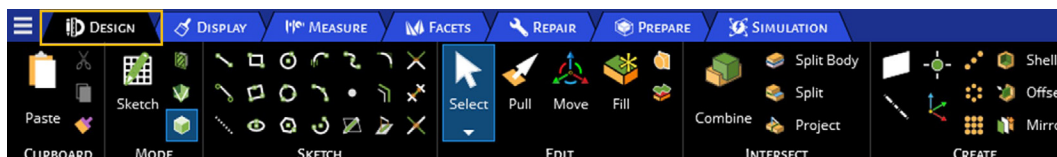

Figure 10: Selecting Design tab.
1. Navigate to the “Design” section in the Ansys Discovery software (Fig. 10).